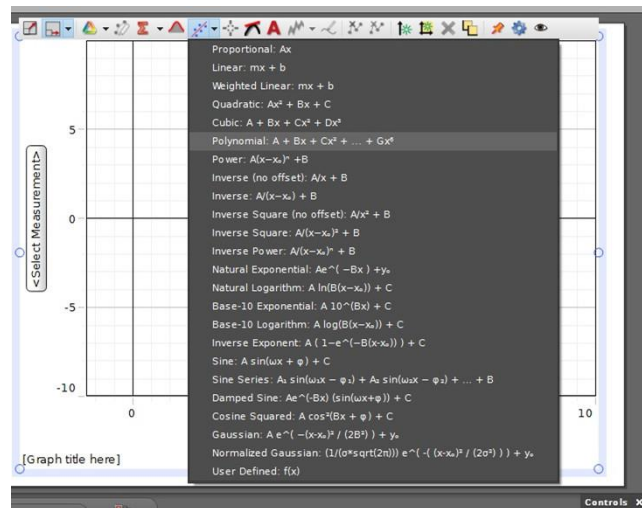

Figure 6. Fitting dialogue box
- Select “mx + b” (Linear) in the dialog box that appears (as in Figure 6).